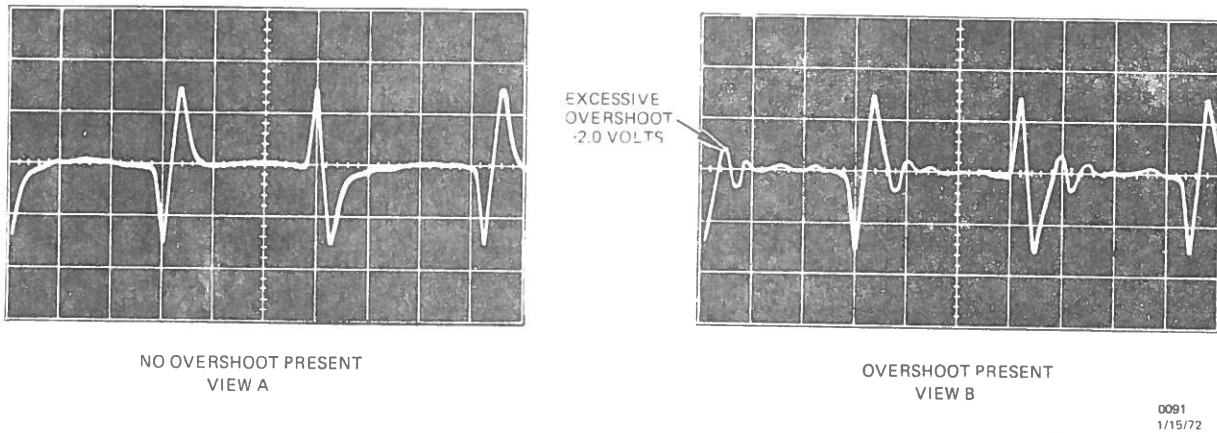

Figure 6-18. Overshoot and Ringing of Added Positions 1 and 2 Signals
3. Observe amplitude of any ringing between seeks. Position excursions of ringing should always be less than  $\pm 0.5$  volt from zero-volt reference. Figure 6-18, view A, shows no overshoot, whereas figure 6-18, view B, shows excessive overshoot